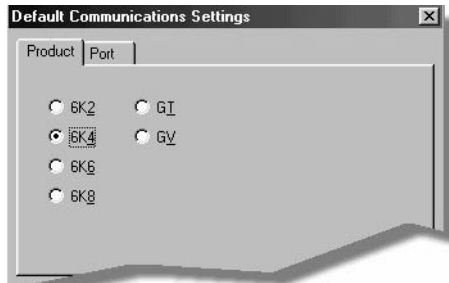

Figure 2-20: Selecting the 6K Controller
4. On the **Product** tab, select the 6K controller that you will use, as shown in Figure 2-20 on page 26.